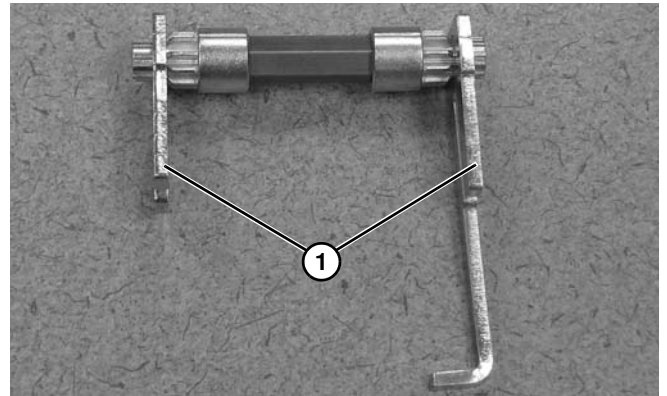

Figure 111
6. Slide on retaining plates (**Figure 111, item 1**).